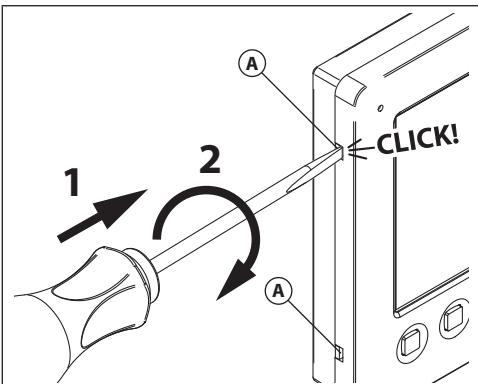

Fig. 1
1. In order to install the videophone, it is necessary to remove the cover, which contains all the electronics, from the base: insert a 5.5mm flat screw driver into the clip (A) then rotate clockwise until you listen a "CLICK!". Repeat the same operation with the other clip as shown in **Fig. 1**.